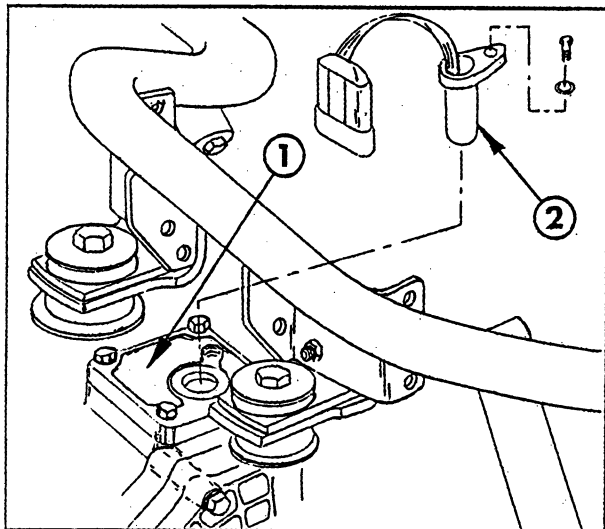

FIG. 1
2. Remove the four bolts and discard the aluminum cover that is located on top of the transaxle. Apply a thin bead of RTV sealer around the outer bottom edge (side opposite tapped hole) of the the new sensor cover. Position the new sensor cover on the transaxle as shown in FIG. 1 and secure with bolts earlier removed. Apply a few drops of oil to the speed sensor and insert into the new sensor cover and secure with the M6-12 screw and M6 lockwasher provided (FIG. 1).